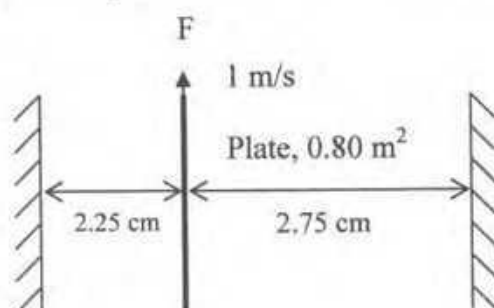

Figure 1
- b. A space of 5.0 cm between two large plane surfaces is filled with glycerine as shown in Figure 1. Determine the force (F) required to drag vertically a very thin plate  $0.80 \text{ m}^2$  in area between the plane surfaces at a constant speed of 1 m/s, if the plate is at a distance of 2.25 cm from one of the surfaces. Take dynamic viscosity  $0.05 \text{ N-s/m}^2$  and weight of the plate 6 N. 9